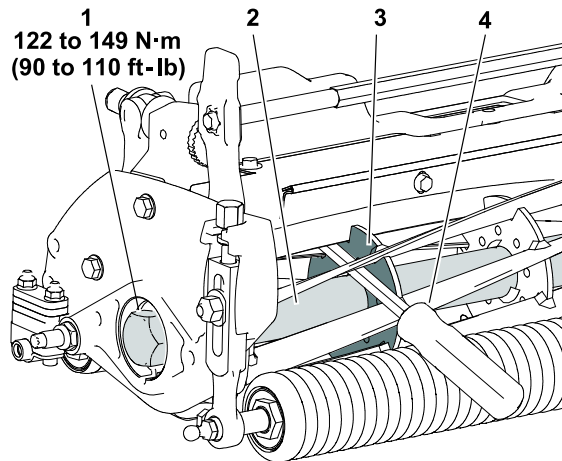

Figure 110
- A. Insert a long- handled pry bar (3/8 x 12 inch with a screwdriver handle recommended) through the front of the cutting unit. The pry bar should pass between the top of the reel shaft and the backs of the reel blades so that the reel will not move; refer to Figure 110.